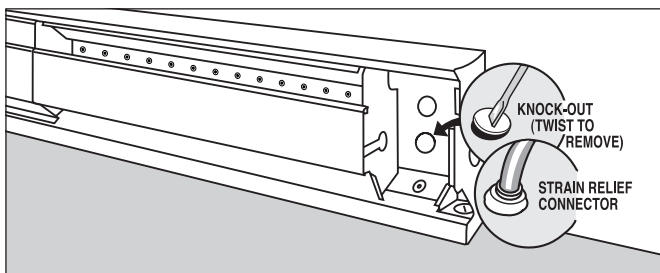

Figure 3
3. Remove the slotted knockout closest to the supply wires and install a strain relief connector (See Figure 3).